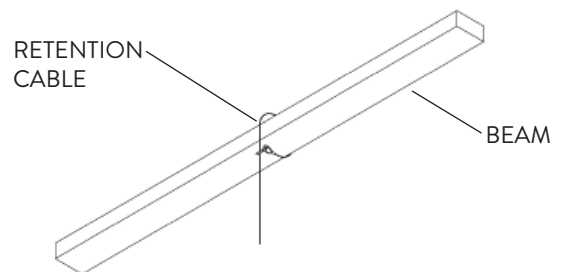

FIG. 8
- 3 Secure the other end of the Safety Retention Cable around the mounting structure, such as a Beam (Fig. 8).